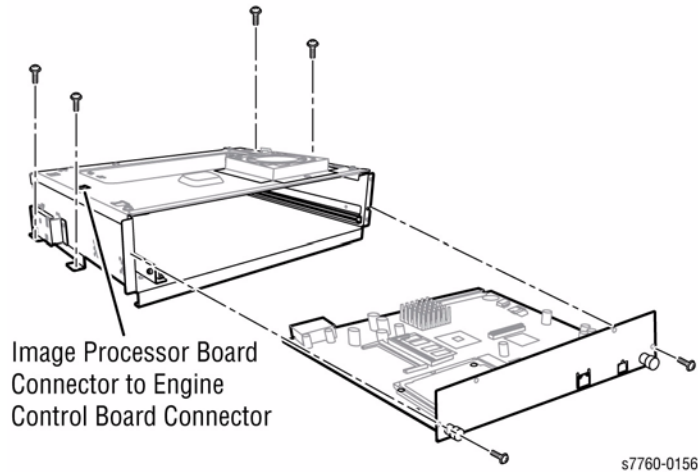

Figure 1 Removing Coordinator Chassis
5. Removing the Electrical Chassis Assembly (Figure 1).